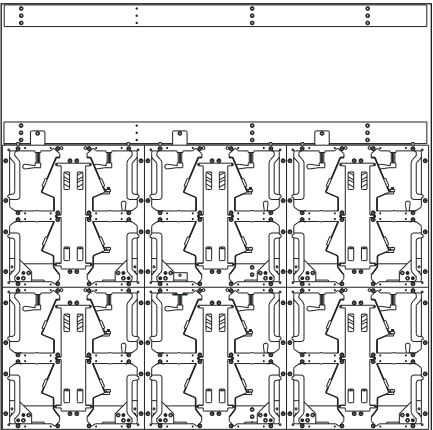

Figure 10: Install Second Row of Panels
15. Start on the next row after the bottom row is completed, working from the center out. Remove the self-drilling screws that are temporarily securing the installation jig plates and transfer the jig plates to the next panel up when the bottom connections of the panel are started. Refer to **Figure 10**.